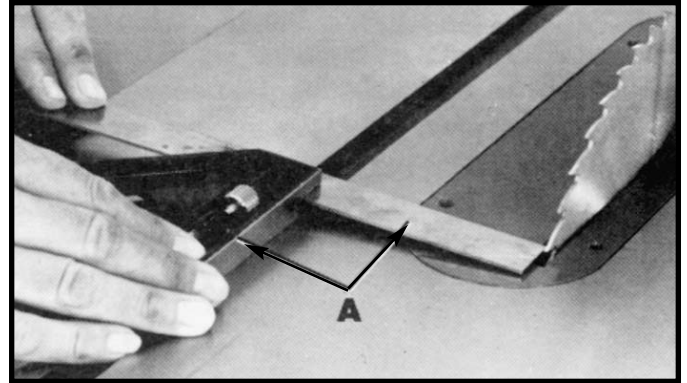

Fig. 49
1. Place a combination square (A) Fig. 49, on the table with one edge of the square in the miter gage slot, as shown, and adjust the square so the rule just touches one of the teeth on the saw blade at the forward position, as shown in Fig. 49. Lock the square in this position.